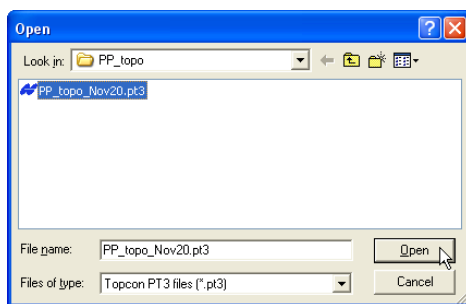

Figure 3-1. Open 3D Point File
2. Navigate to the location of the desired file, select it, and click **Open** (Figure 3-1 on page 3-2).